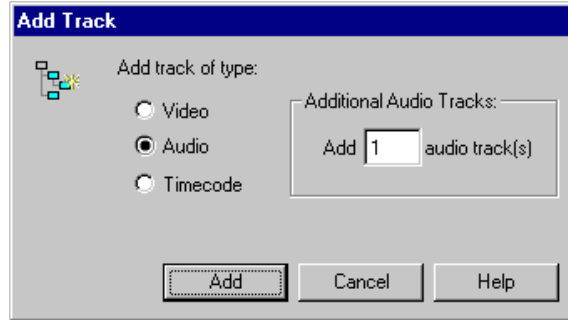

Figure 159. Add Track dialog box for audio
2. To add an audio track, click the **Add Track** button. In the Add Track dialog box that appears (see Figure 159), click **Audio**, then enter the number of tracks you want to add. Click **Add** when done. The new audio track icons will appear in the configuration tree.